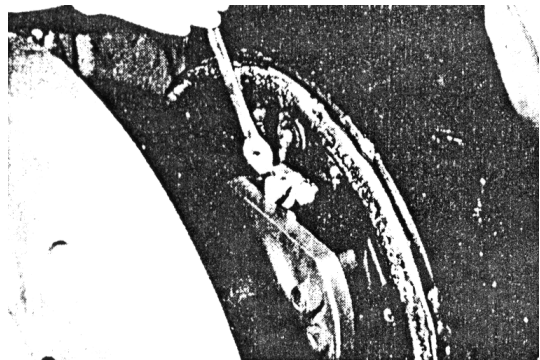

Fig. 8-13
(5) Remove the braking oil pipe from the operating cylinder, remove operating cylinder mounting bolts and detach the operating cylinder from the backing plate. (See Fig.8-13)